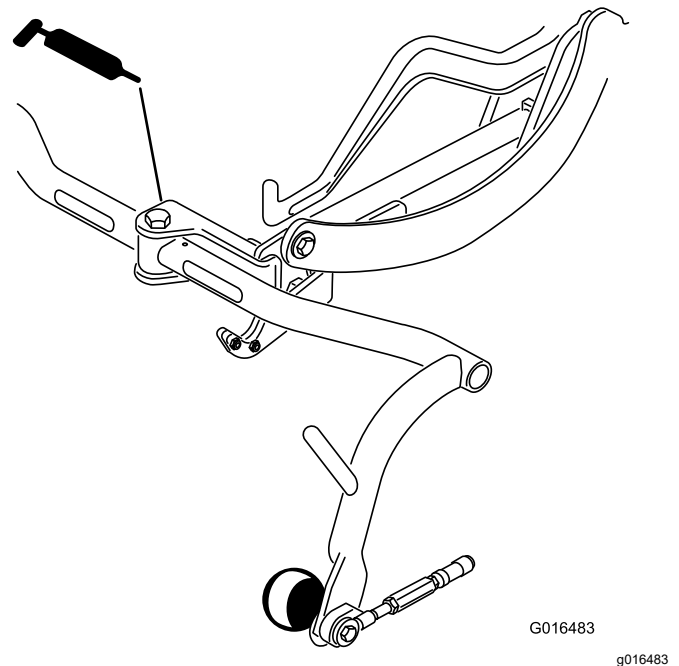

Figure 30
- Carrier frame pivot (3) (Figure 30)